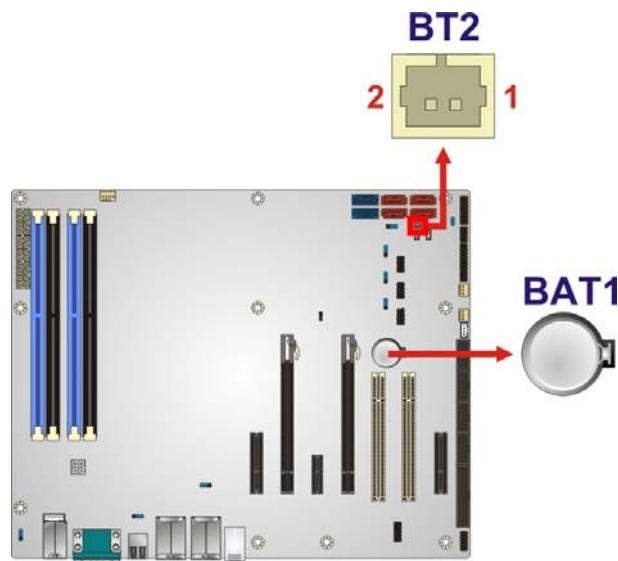

Figure 3-6: Battery Connector Locations
- CN Location:** See **Figure 3-6**